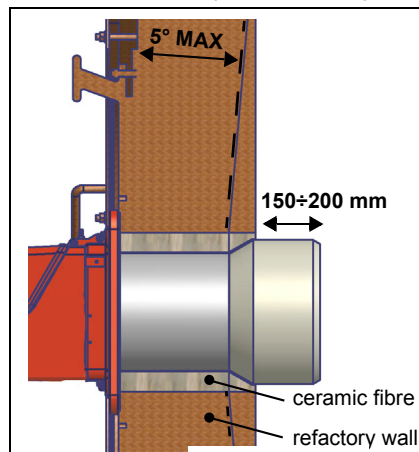

Fig. 4
- 1-b) in case of flanged joints: place a gasket (no. 1A..1E - Fig. 4) between the elements;
ATTENTION: once the gas train is mounted according to the diagram on Fig. 4, the gas proving test must be performed, according to the procedure set by the laws in force.